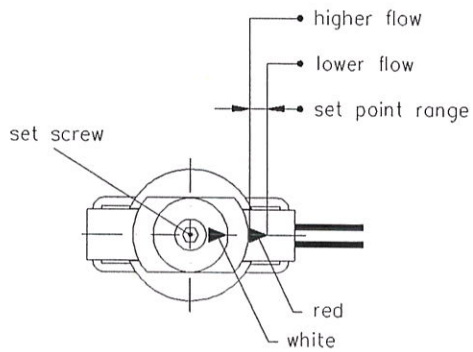
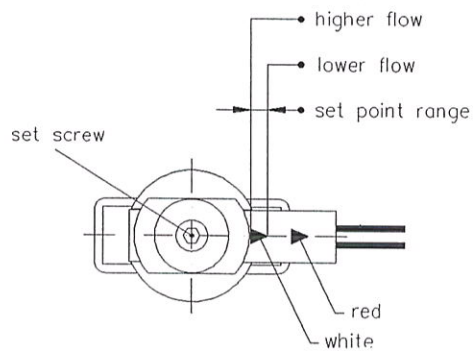

Fig. 3
Fig 4
- Move the reed switch unit so far that with set 'working contact' (fig. 3) the red arrow (or with set 'break contact' the white arrow, fig. 4) is visible at the entry of the switch units guide.